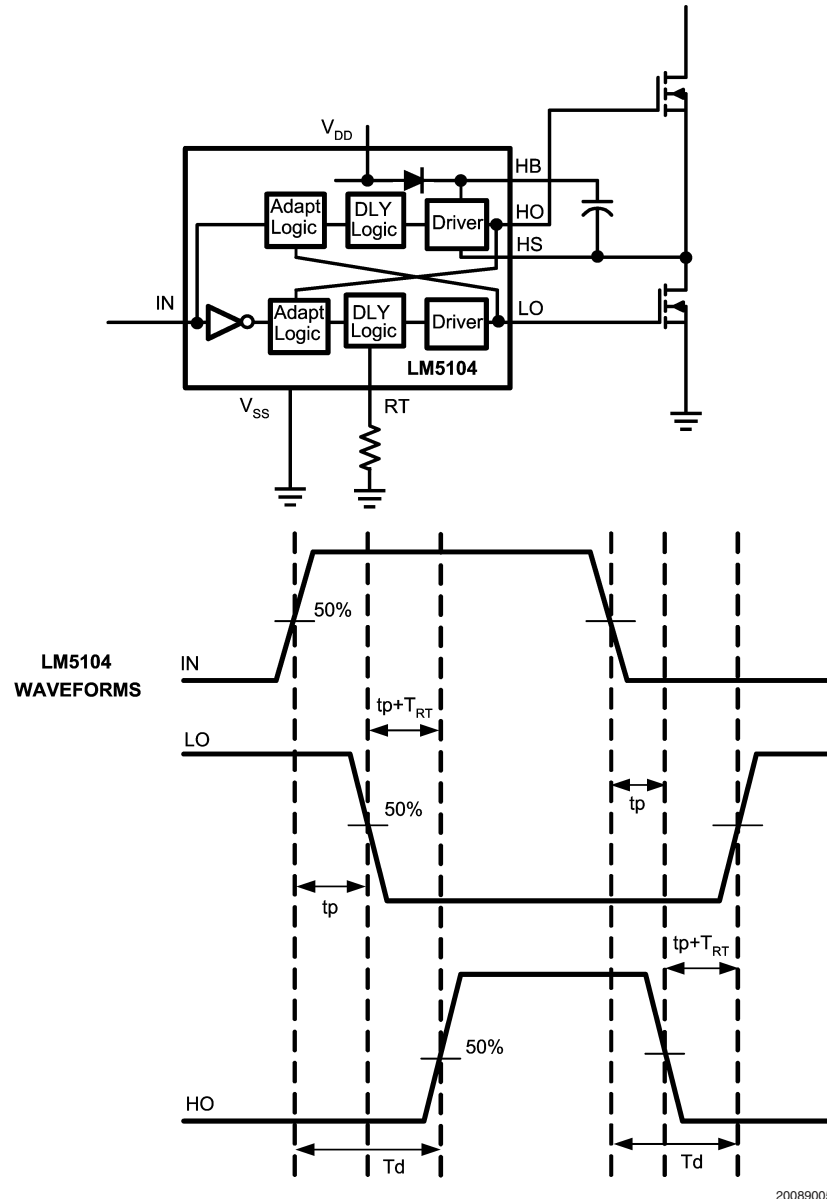

FIGURE 3. Application Timing Waveforms
LM5104 is a high voltage, high speed dual output driver designed to drive top and bottom MOSFET's connected in synchronous buck or half-bridge configuration, from one externally provided PWM signal. LM5104 features adaptive delay to prevent shoot-through current through top and bottom MOSFETs during switching transitions. Referring to the timing diagram *Figure 3*, the rising edge of the PWM input (IN) turns off the bottom MOSFET (LO) after a short propagation delay ( $t_p$ ). An adaptive circuit in the LM5104 monitors the bottom gate voltage (LO) and triggers a programmable delay generator when the LO pin falls below an internally set threshold ( $\approx V_{DD}/2$ ). The gate drive of the upper MOSFET (HO) is disabled until the deadtime expires. The upper gate